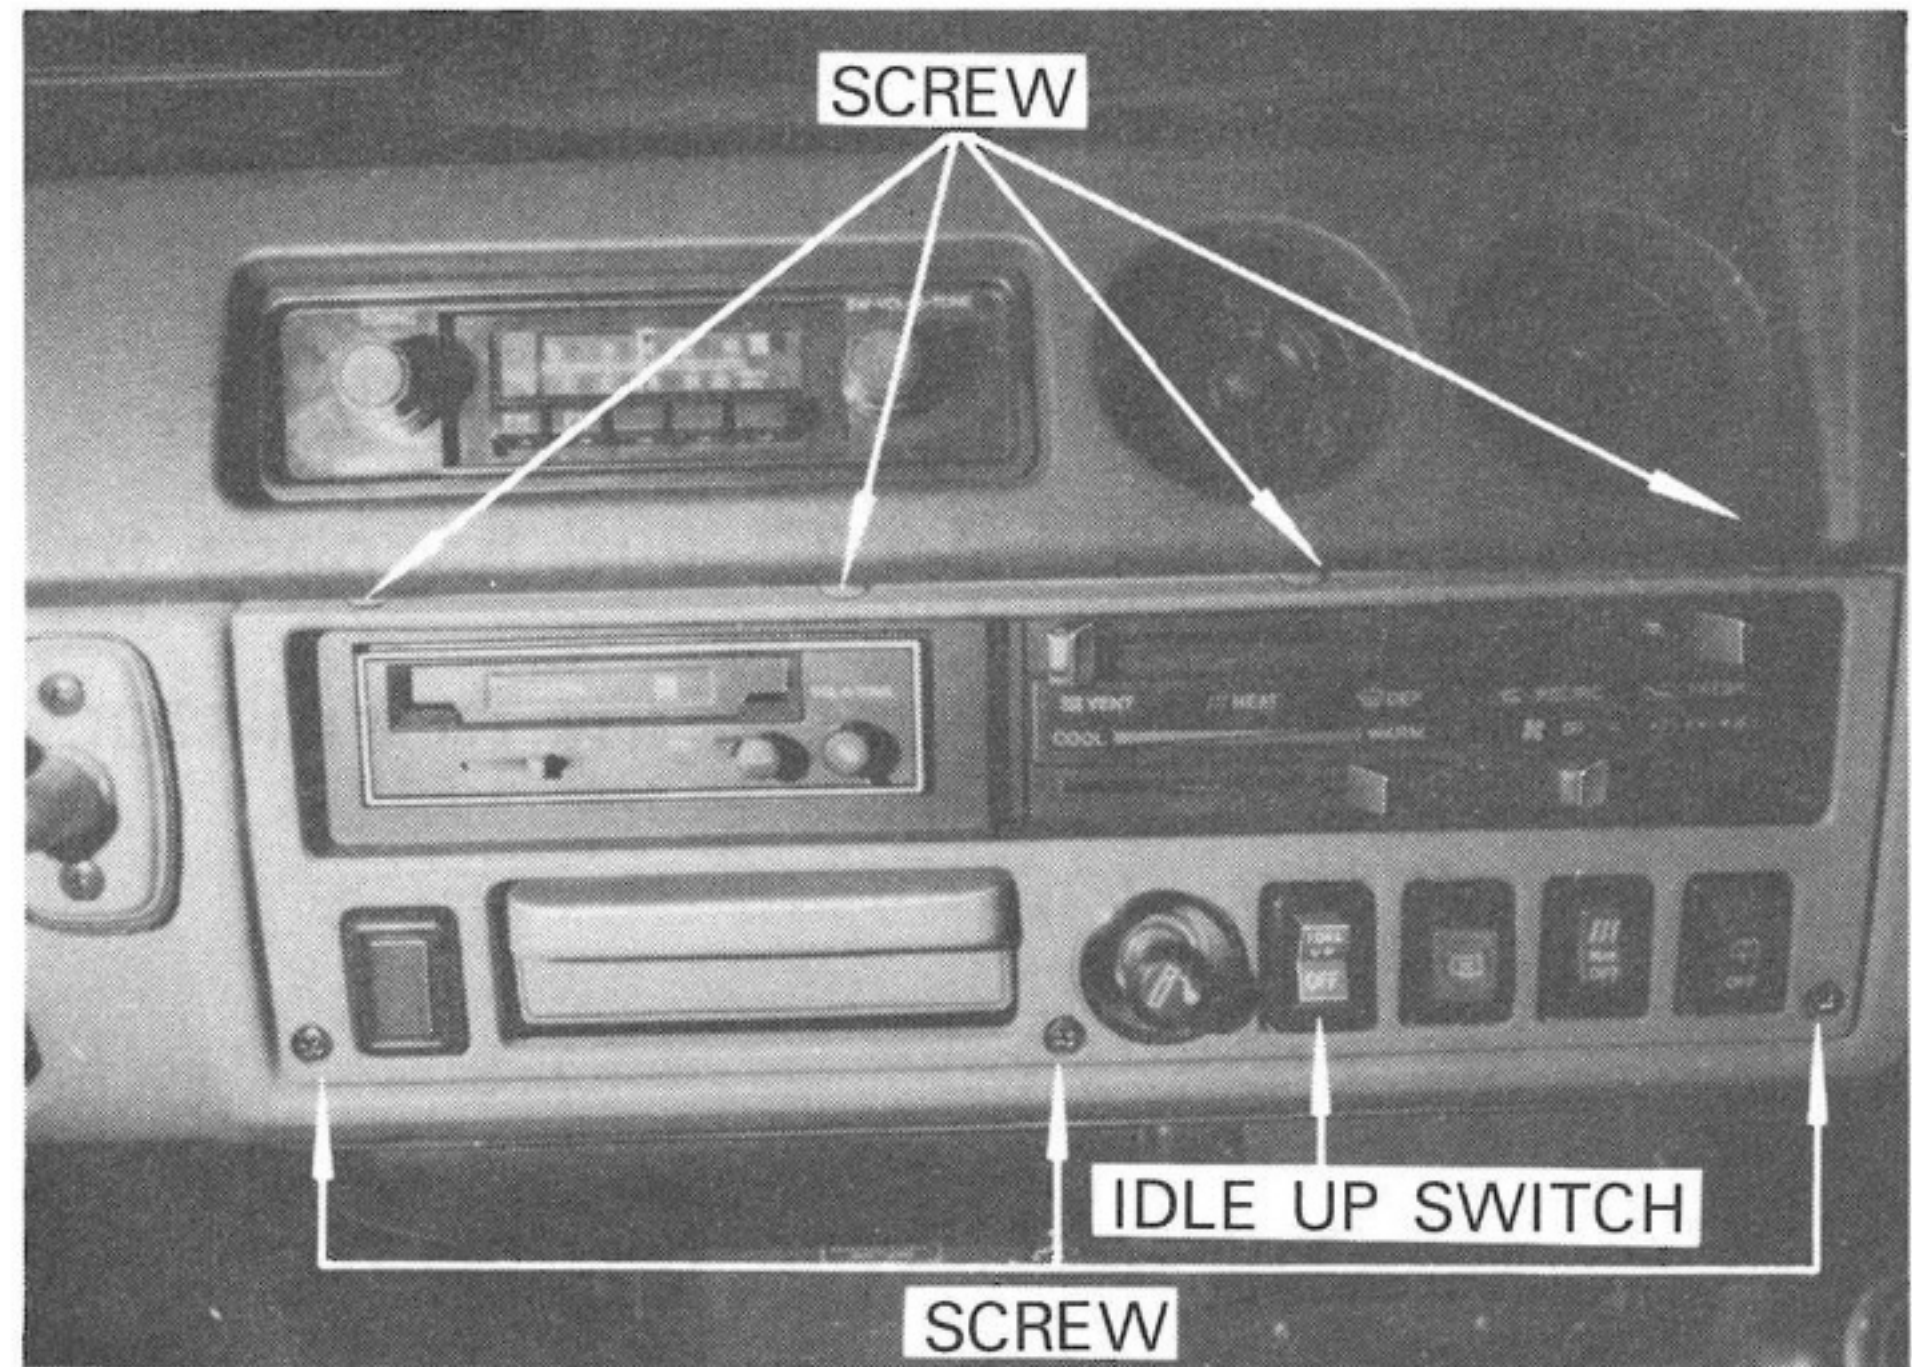

Fig. 1-9
- A) Unscrew seven screws to remove the control panel ass'y. See Fig. 1-9.
- B) Remove the A/C control panel and install the A/C switch using a tapping screw as shown in Fig. 1-9.